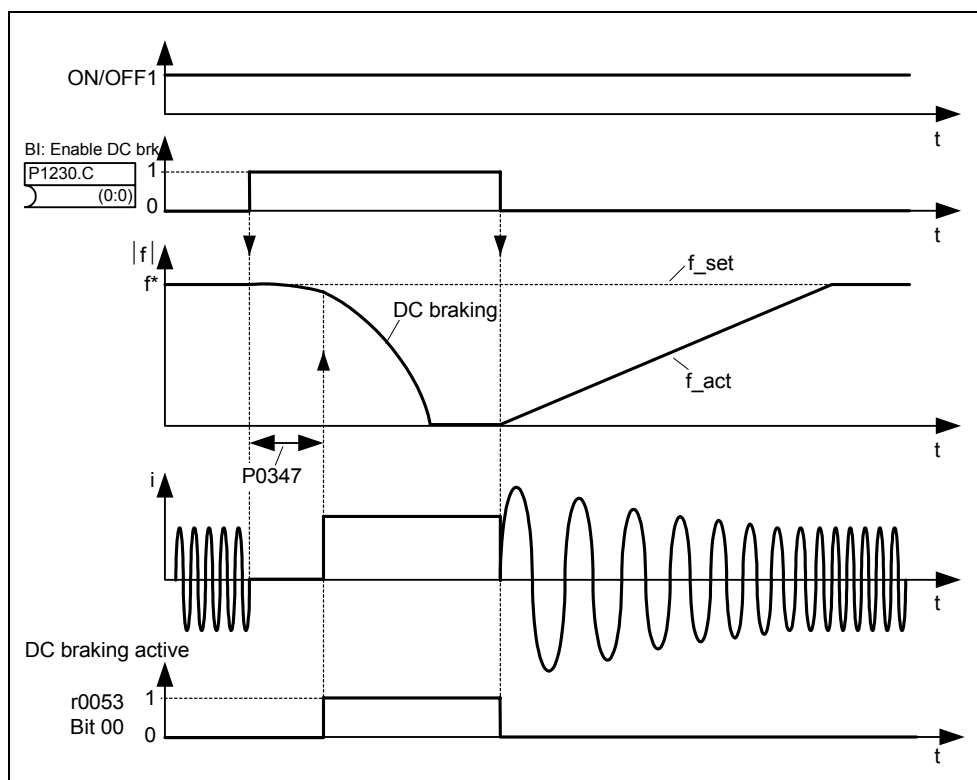

Fig. 3-52 DC braking after external selection
**Sequence ②**
1. Enabled and selected using BICO parameter P1230 (refer to Fig. 3-52)